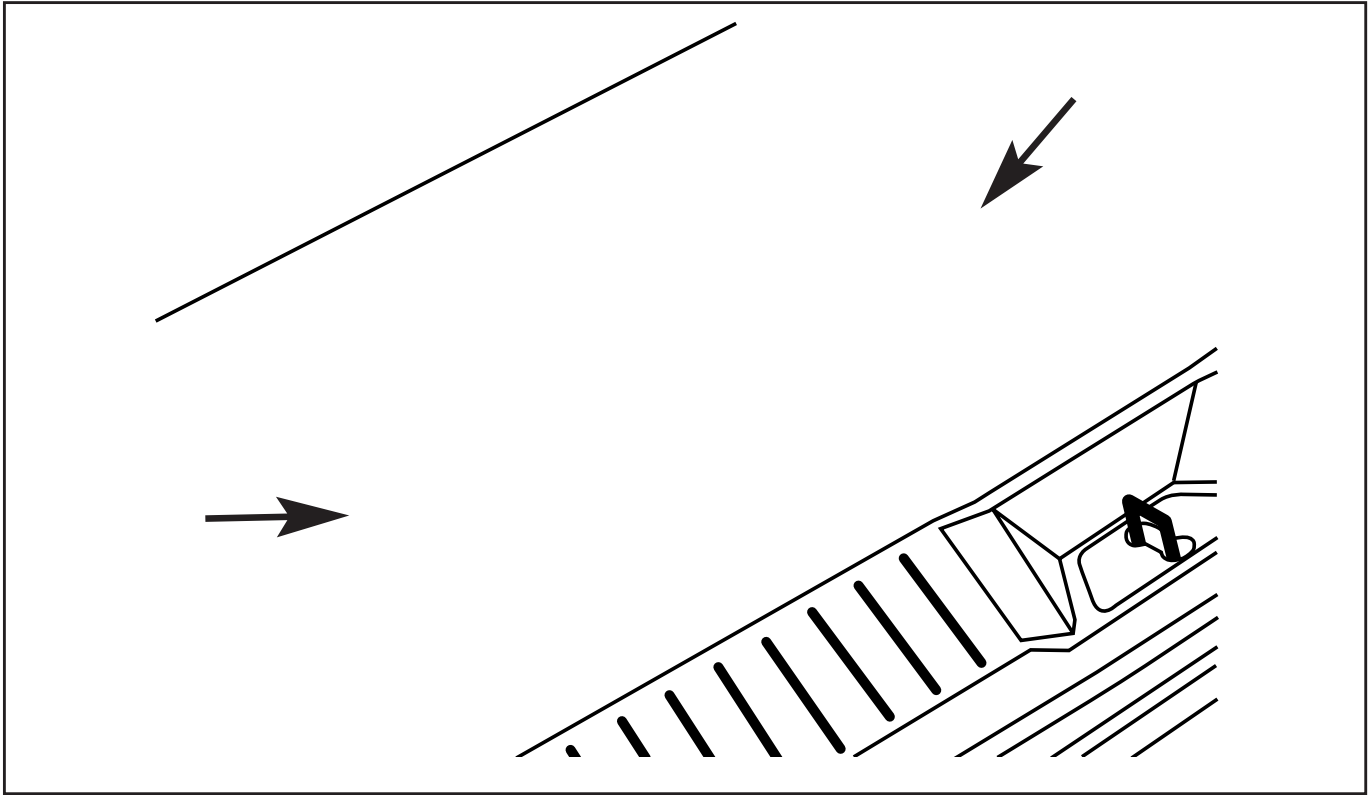

Fig. 10
11. Reinstall load floor cover (Fig. 10).